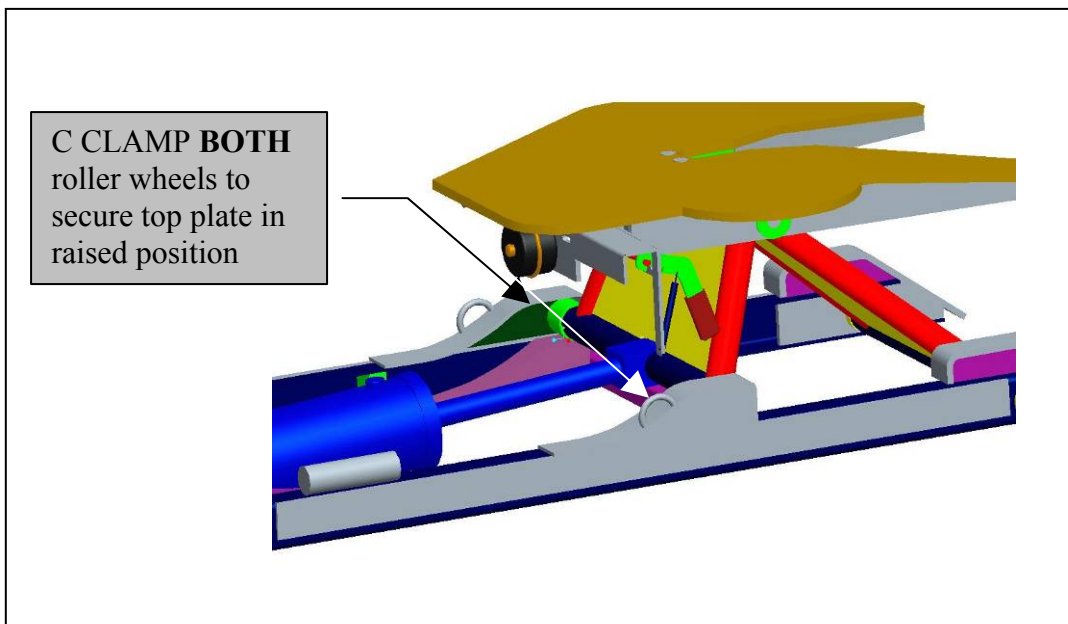

Figure 9a. Securing FW-30 & FW-45 5th wheel in up position for installation and maintenance
**CAUTION:** After raising the 5th wheel plate (on all models), place clamps and/or block to secure the plate from returning to collapsed (down) position (Fig. 9a and b). Do not depend on the hoist alone to keep the plate in raised position. Keep all parts of your body away from elevating sections!